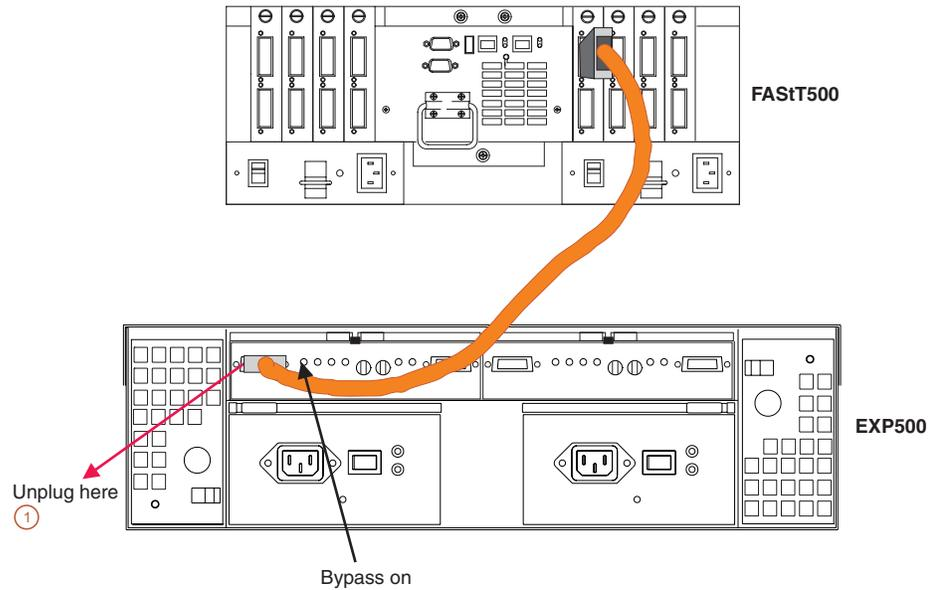

Figure 147. Disconnect Cable from Loop Element
1. Disconnect the cable from the loop element that has the bypass indicator light on. See Figure 147.